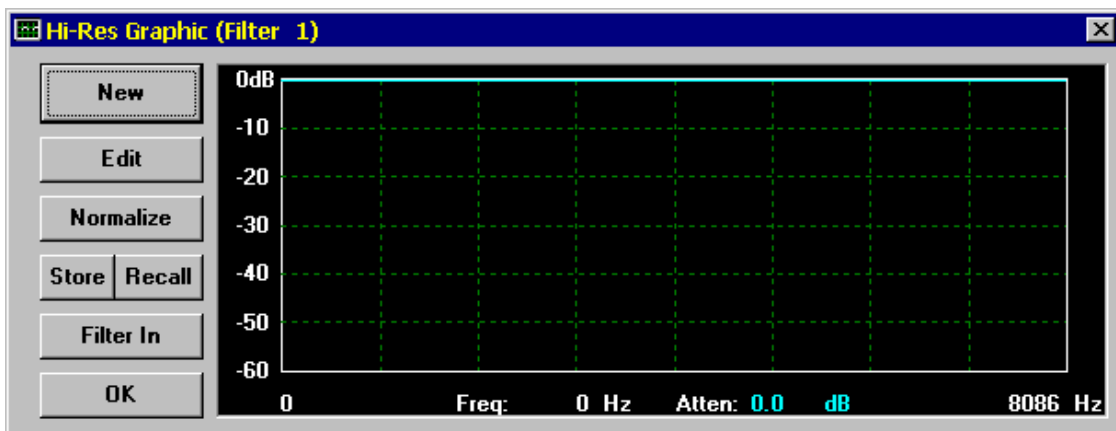

Figure 4-44 Hi-Res Graphic Filter Window
2. Click on the **Control** button in the **Filter 1** block to bring up the Hi-Res Graphic Filter control window. When used for the first time, the control window will be the that of the previous Figure 4-44.